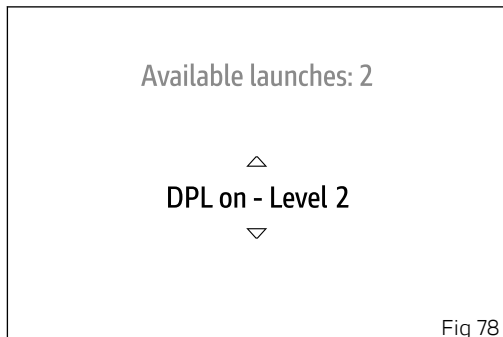

Fig 78
The screen for selecting the level for the assisted start (Fig 78) is displayed. Use buttons (1) and (2) to select the desired level (1, 2, 3) or the "Exit" item. Press the ENTER button (3) for 2 seconds to confirm the selected level.